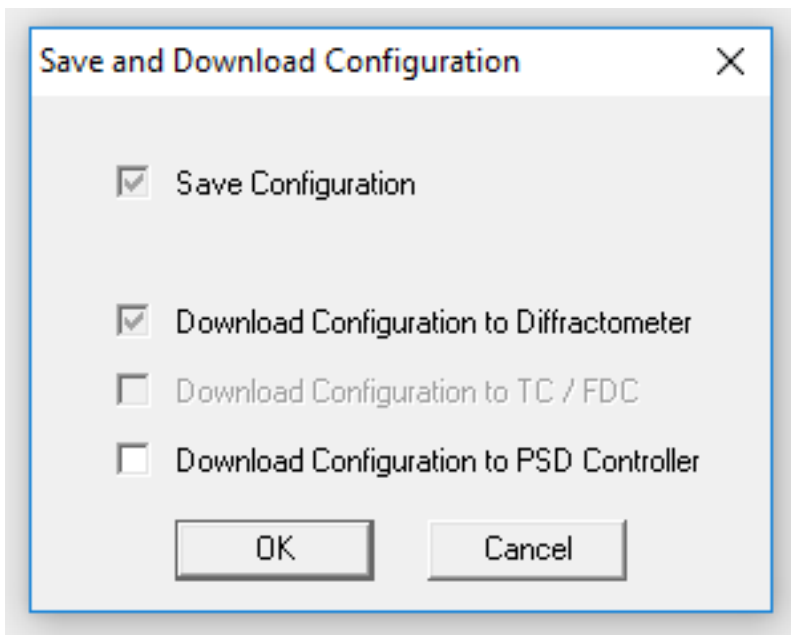
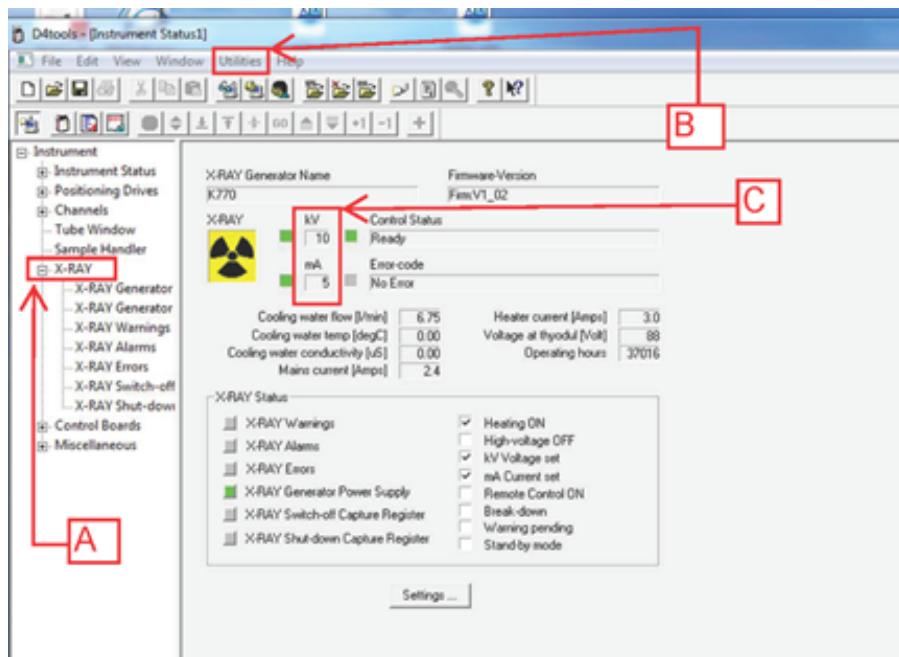

Figure 35. Save and Download Configuration page. Correct settings to save
Figure 36: D4 Tools X-ray subtree window. (A) X-ray subtree button (B) Utilities command (C) Standing kV and mA
9. Enter your name and date and select "Vantec-1" for the detector.8. Enter the following values into the spreadsheet (Figure 35, Figure 36):
DO NOT CHECK THE BOX FOR THE PSD CONTROLLER. Downloading the config file to the PSD Controller corrupts the Controller. For more information see the Troubleshooting section. Always backup the config.file on the server. With **ONLY** the 'Save Configuration' and 'Download Configuration to Diffractionmeter' boxes checked select 'OK' (*Figure 35*). The new configuration will take a moment to download to the Diffractionmeter.
If X-rays have not been turned on in longer than 24 hours you must turn on tube conditioning to avoid damaging the X-ray tube. In D4 Tools select "X-RAY" under the Instrument tree, then Utilities -> X-Ray Utilities -> Tube Conditioning ON/OFF (*Figure 36*).